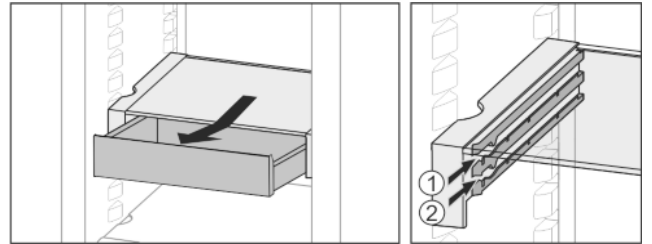

Fig. 20
- Slide back at the height you want Fig. 20 (1) or Fig. 20 (2).